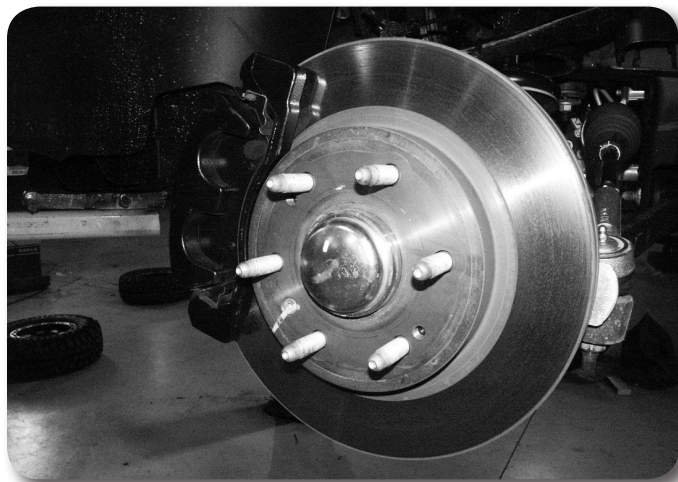

Figure 4
8. Remove the hub dust cap **Figure 4**. Remove the axle shaft nut. Retain nut and cap.